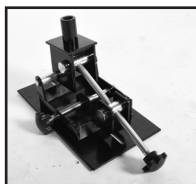
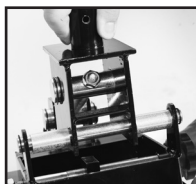

Fig. 8
Fig. 9
2. Align the adjuster screw so that it passes through the bracket on the main support plate (1) and screws into the bracket on the support plate (2) (Fig 8). Continue to screw the adjuster screw (3) all the way through the support plate bracket until it completely protrudes from the other side. Fit a flat washer over the end of the adjuster screw and continue to turn the adjuster screw until the flat washer makes contact with the inside face of the opposite bracket and the end of the adjuster screw is protruding through. Place a flat washer over the protruding end of the adjuster screw at the outside face of the bracket and tighten the supplied bolt, to lock it into position (Fig 9).